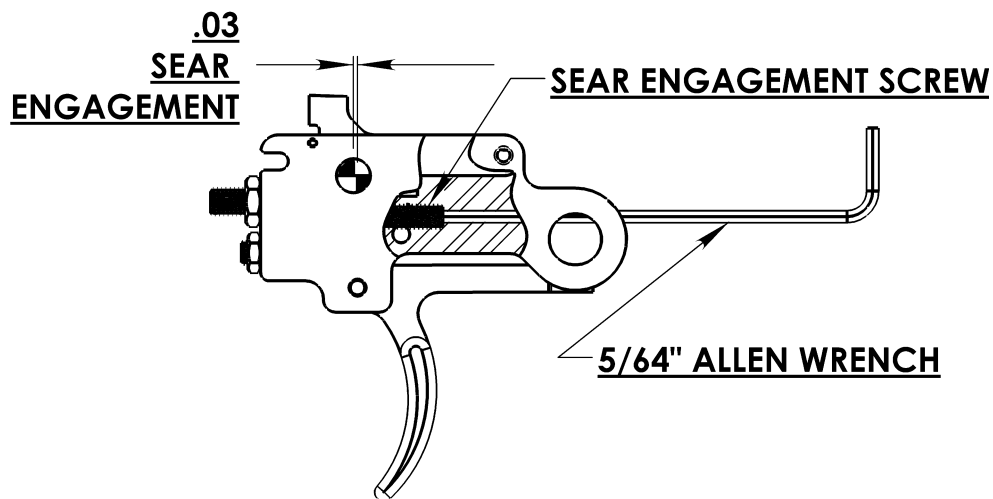

Figure 24. Adjusting sear engagement.
1. Turn the sear engagement set screw counter clockwise using a 5/64" Allen wrench to the desired sear engagement. One quarter of a turn of the sear engagement screw will equal an increase of .031" of sear engagement. Do not increase the sear engagement more than $\frac{3}{4}$ of a turn from the factory setting. (Figure 24)